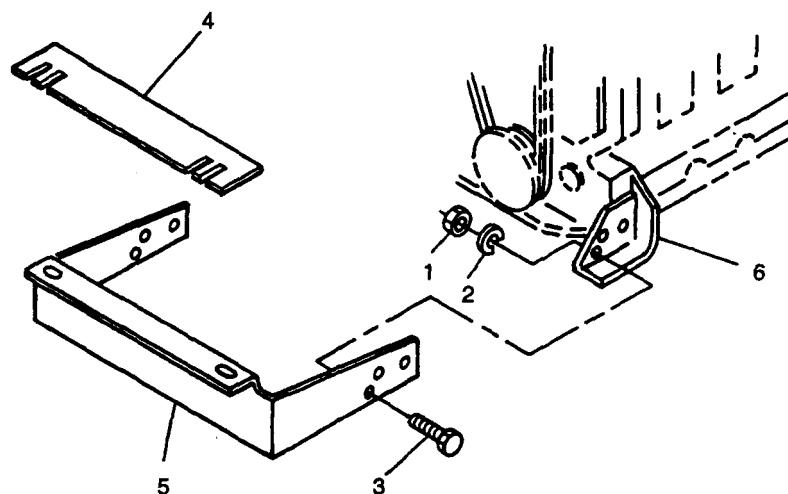

FIGURE 3-16. Radiator Mounting Bracket
- j. Install bolts (13), lockwashers (14), and washers (15), tightening bolts (13) slowly to ensure even and proper seating of generator housing lip to flywheel housing adapter (44). Torque bolts (13) to 25 ft-lbs (34 Nm).
- k. Secure engine mount brackets (31) to skid base with bolts (19), snubbing washers (18), washers (17), and nuts (16). Torque bolts (19) to 75 ft-lbs (102 Nm).
- l. Align scribe mark on generator drive disc and engine flywheel, and install bolts(11) and washers (12) securing generator drive disc to engine flywheel. Torque bolts (11) to 35 ft-lbs (47 Nm).” “
- m. Install screen/cover (10) on generator case with screws (8), washers (9), lockwashers (7), and nuts (6).
- n. Loosen nuts (45), adjust bolts (46) to obtain 0.5 inch (12.7 mm) minimum clearance with skid base. Torque nuts (45) to 150 ft-lbs (204 Nm).
- o. Install radiator mounting bracket (5, FIGURE 3-16) and shim(s) (4) with bolts (3), lockwashers (2), and nuts (1) to engine mount brackets (6).